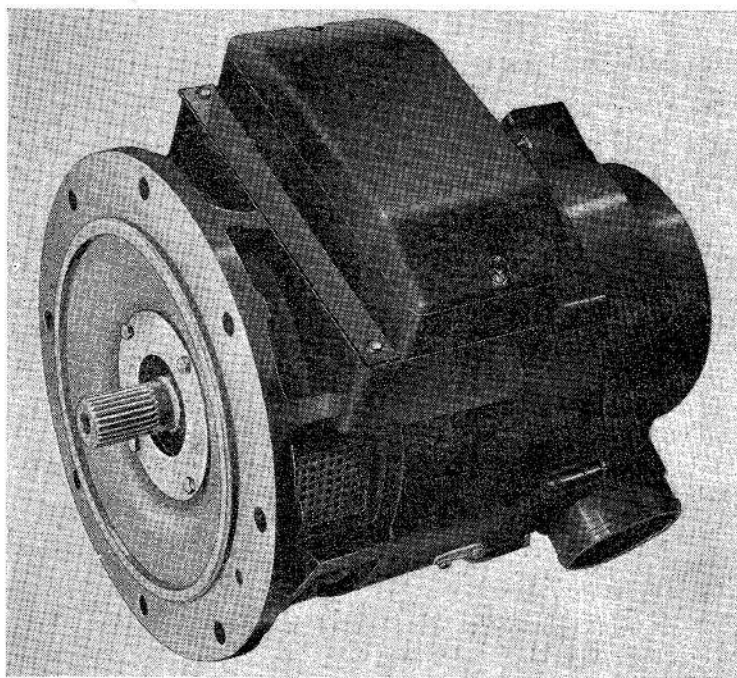

Fig. 1. Type 159 generator
6. The mounting flange (fig. 1) is an integral part of the main housing and